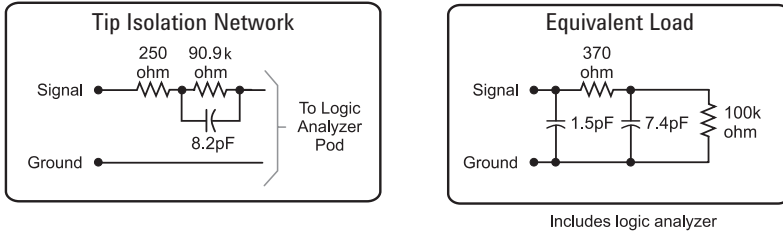

Figure 2.1. Probe tip isolation network and equivalent load
The standard probing system consists of IC clips, probe leads, probe housing and probe cable. Because it is passive, the standard probing system is smaller, lighter, and much easier to use than active probing systems. This passive probing system is similar to a probing system used on a high frequency oscilloscope. It consists of an isolation network (as shown in Figure 2.1) at the probe tip and a shielded resistive transmission line. The advantages of this system are:
- High input impedance. See Figure 2.1.